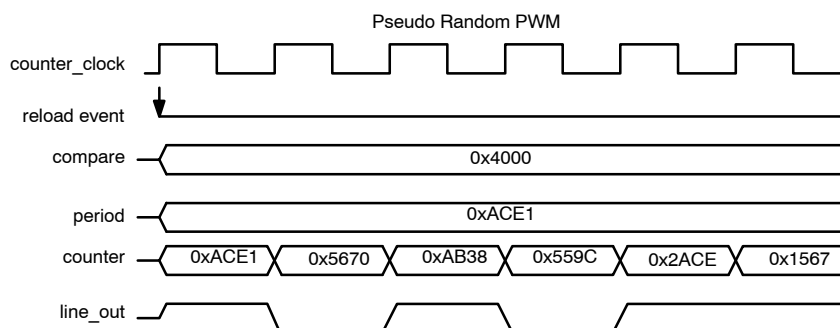

Figure 75. Timing Diagram for Pseudo-Random PWM
- CC condition occurs when the counter is running and its value equals compare value. Figure 75 illustrates pseudo-random noise behavior.